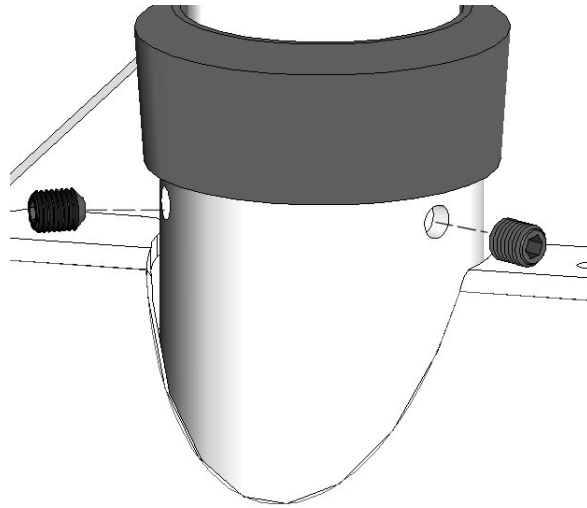

Figure 4. Install setscrews
2. Install four 5/16-18 X 3/8 socket head set screws (see Figure 4).